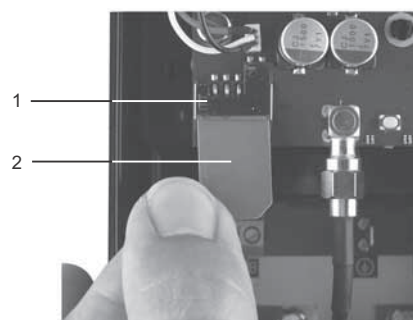

Fig. 14 Inserting the SIM card
3. Insert the SIM card into CIM 250. See fig. 14.
The connectors on the SIM card must face inwards towards CIM 250. See fig. 14.